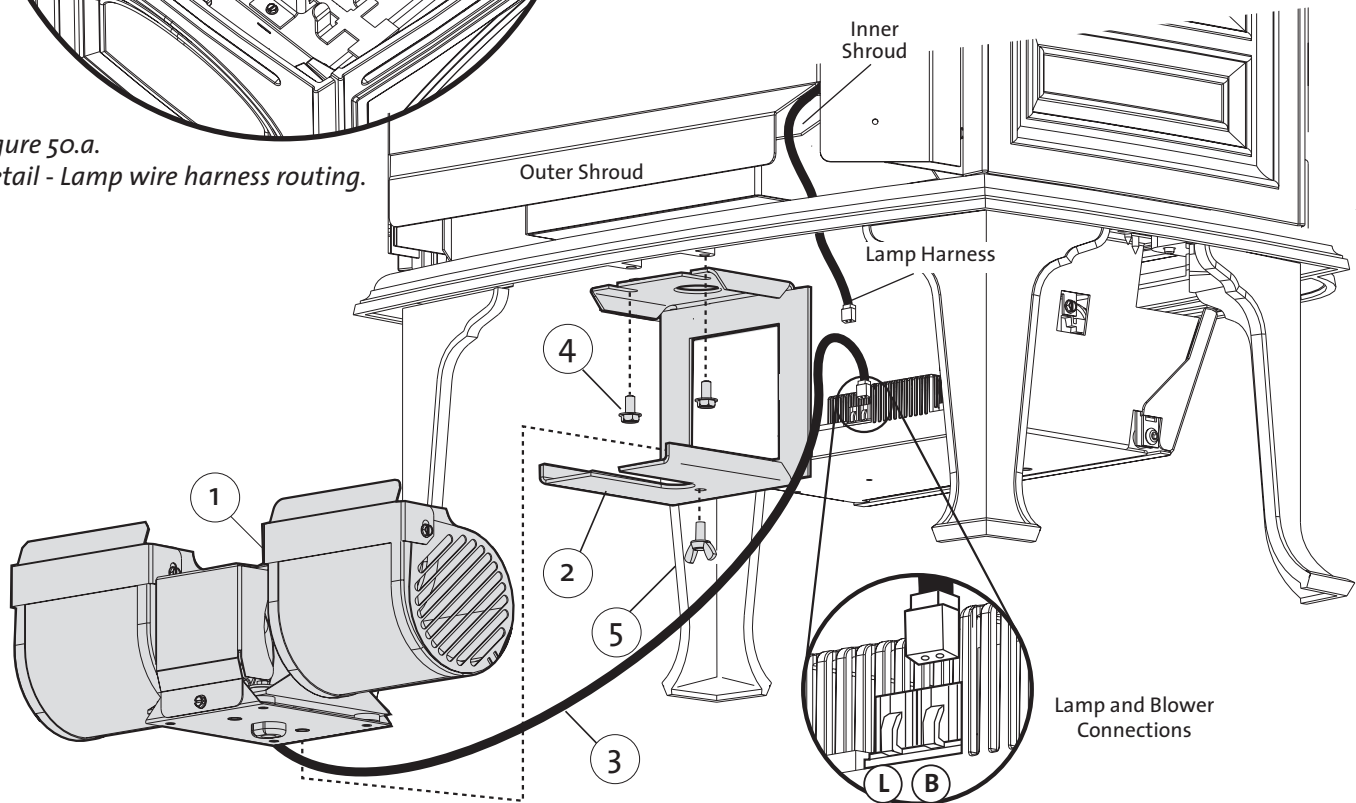

Figure 50. 157470 Blower Kit Components used for GF 300 DV IPI Allagash.
4. Connect the Blower wire harness to terminal (B) on the IFC board as shown in fig. 50. Use the wire tie provided to take up any extra slack in the harness.